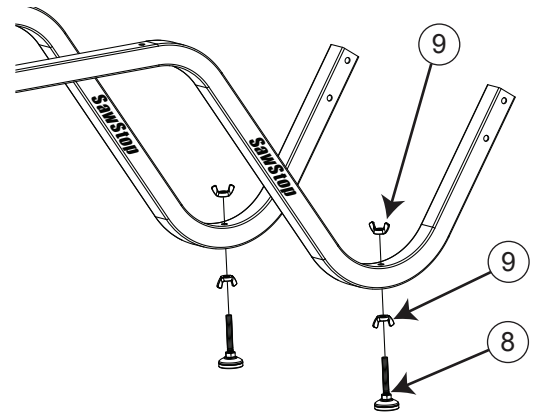

Fig. 7
- Attach a leveling foot to each side frame with two $\frac{3}{8}$ inch wing nuts, as shown in Fig. 7. First thread a wing nut over each foot with the wings extending toward the bottom of the foot, as shown, then insert one foot into the hole in each side frame, and thread a second wing nut onto each foot. Do not fully tighten the wing nuts at this time.